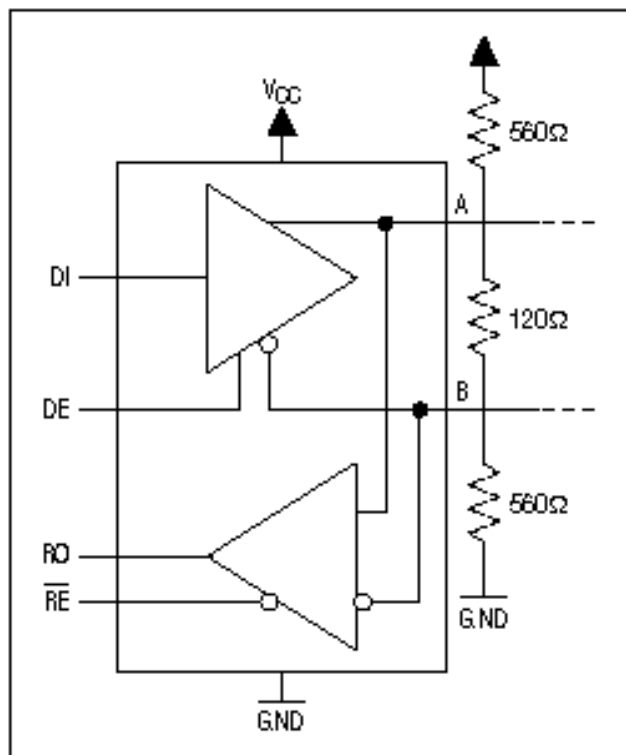

Figure 1. Three external resistors form a termination and failsafe biasing network for this RS-485 transceiver.
For RS-485 receiver inputs between -200mV and +200mV, the output is undefined. That is, if the differential voltage on the RS-485 side of a half-duplex configuration is 0V, and no master transceiver is driving the line (or a connection has come loose), then a logic "high" output is as probable as a logic "low." To ensure a defined output under these conditions, most of today's RS-485 transceivers require failsafe bias resistors: a pullup resistor on one line (A) and a pulldown on the other line (B), as shown in Figure 1. Historically, the failsafe bias resistors on most schematics were labeled 560 Ω , but to reduce power loss (when terminating one end only) this value can be increased to approximately 1.1k Ω . Some designers terminate both ends with resistor values between 1.1k Ω and 2.2k Ω . The trade-off is noise immunity versus current draw.